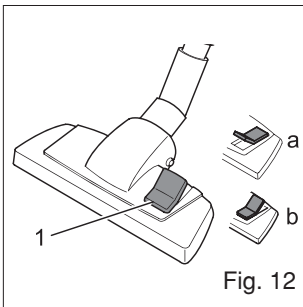

Fig. 12
- 4) Set the nozzle switch to "carpet" or "hard floor" according to the floor (Fig. 12) to be cleaned: